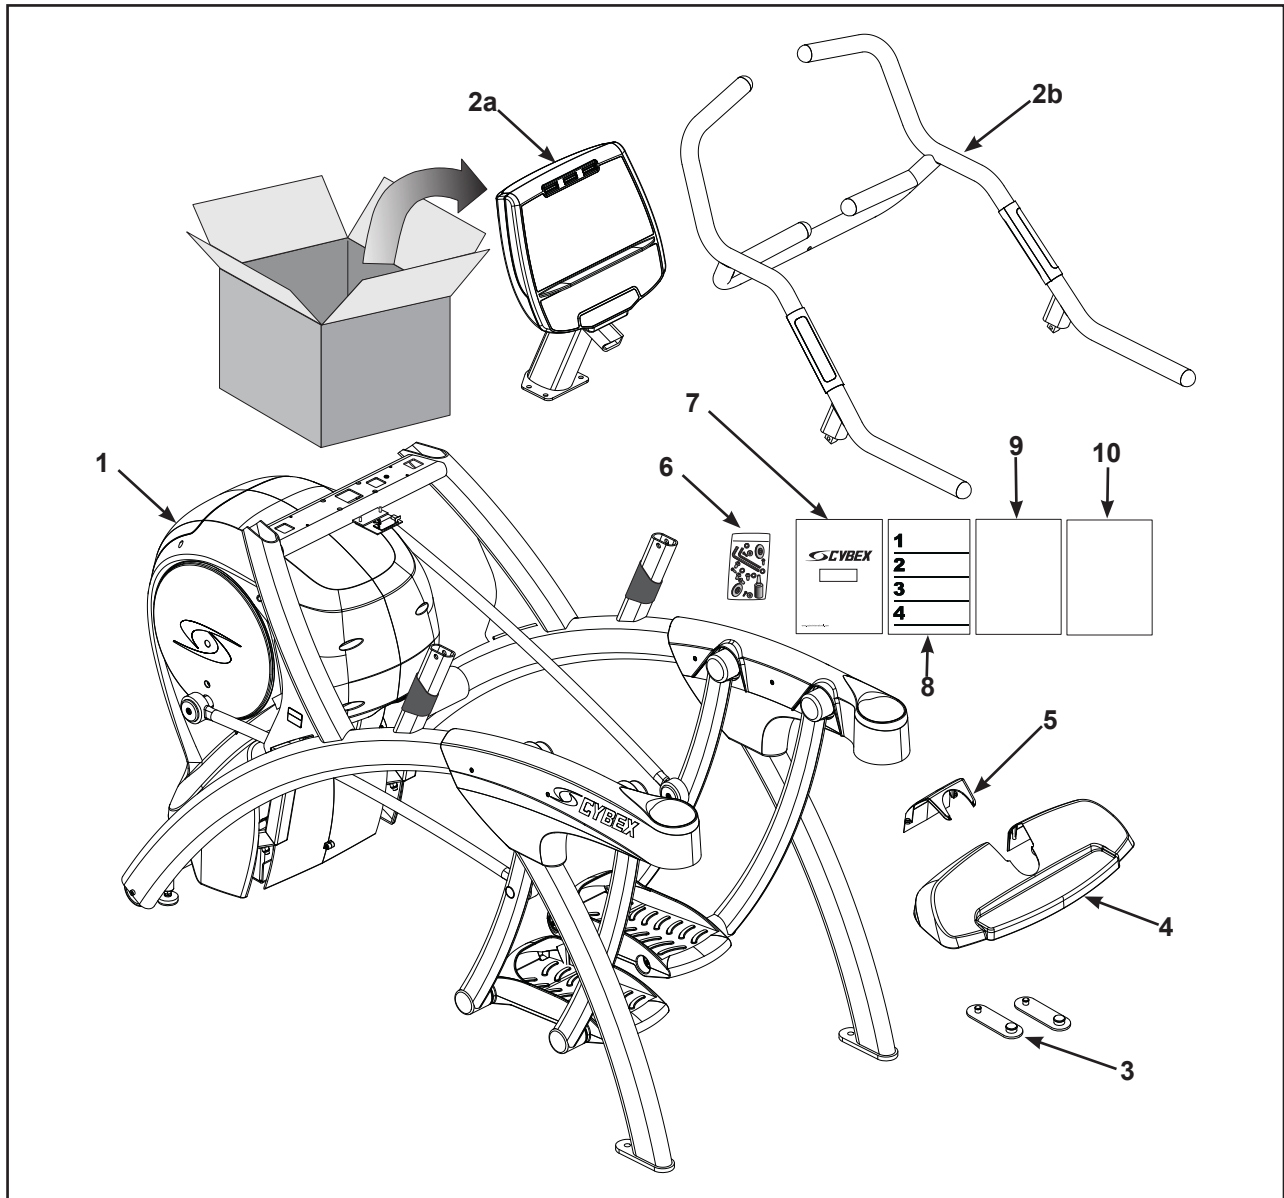

Figure 1a (750A)
- A. See 750A content listing and Figure 1a for 750A carton contents.